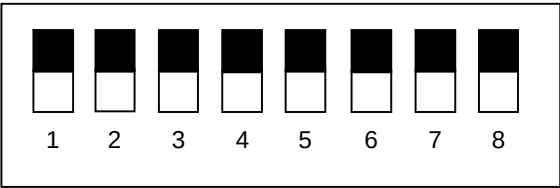

Figure 3.2 Standard DIP Switch Settings
(5) Set DIP switch No.1 as shown in Figure 3.2.